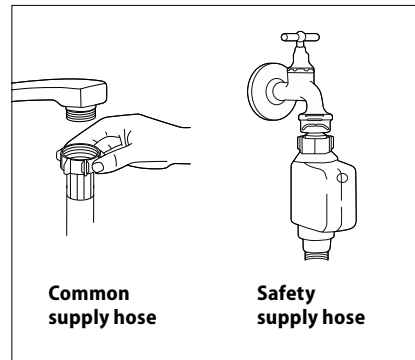

Fig. 17
4. Connect the inlet hose to the water supply according to Fig. 17.
- Connect the inlet hose to the tap with 3/4" thread (Fig. 17). Make sure that the inlet hose is not bent, crushed or entangled.